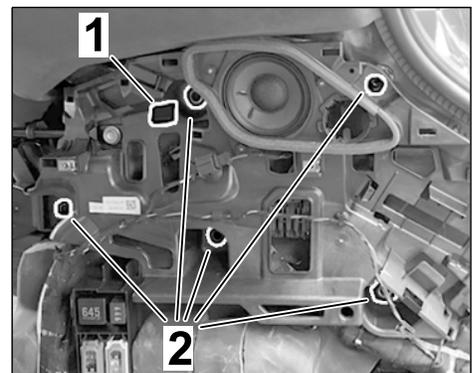

Figure 4
2.2 Remove side trim panel ⇒ Figure 4 -1- at the right. Loosen screws ⇒ Figure 4 -2- and remove trim panel.